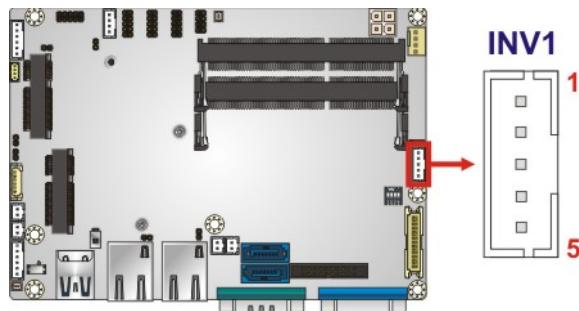

Figure 3-15: LVDS Backlight Control Connector Location
**CN Location:** See **Figure 3-15**